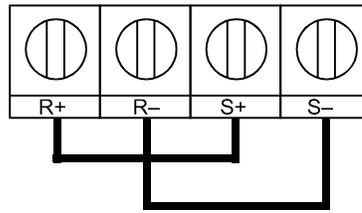

Figure 88.
- When using RS-485 2 Wire communication, connect S+ to R+, and S- to R-, on the control circuit terminal board. See *Figure 88.*